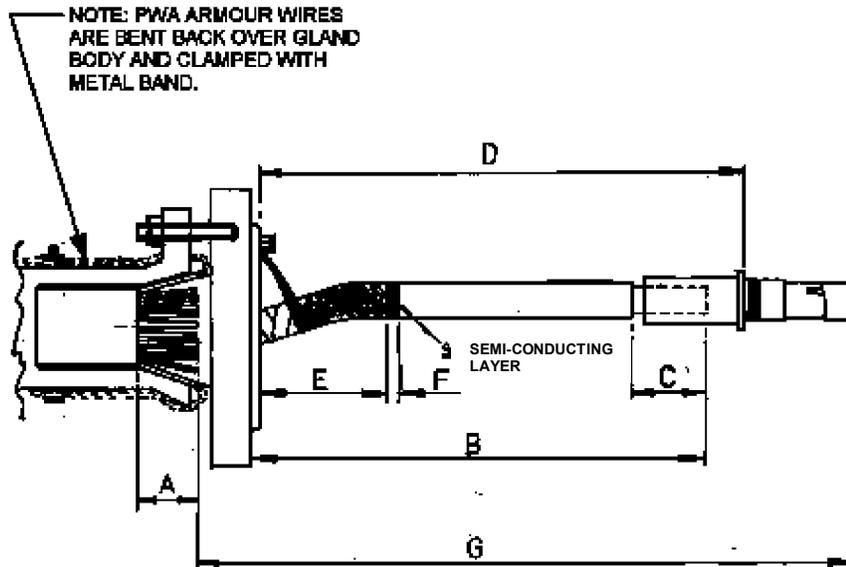

Figure 2.
- g) Straighten the cable cores out and preform to position the conductors on a 59mm P.C.D. as shown in Fig.2.
- i) Relay the semi-conducting tape as shown in Figure 2. Apply a PVC binder to provide a straight edge around the core to  $\pm$  dimension in table 1. Rewind semi-conducting tape back along for two turns and cut off excess tape.